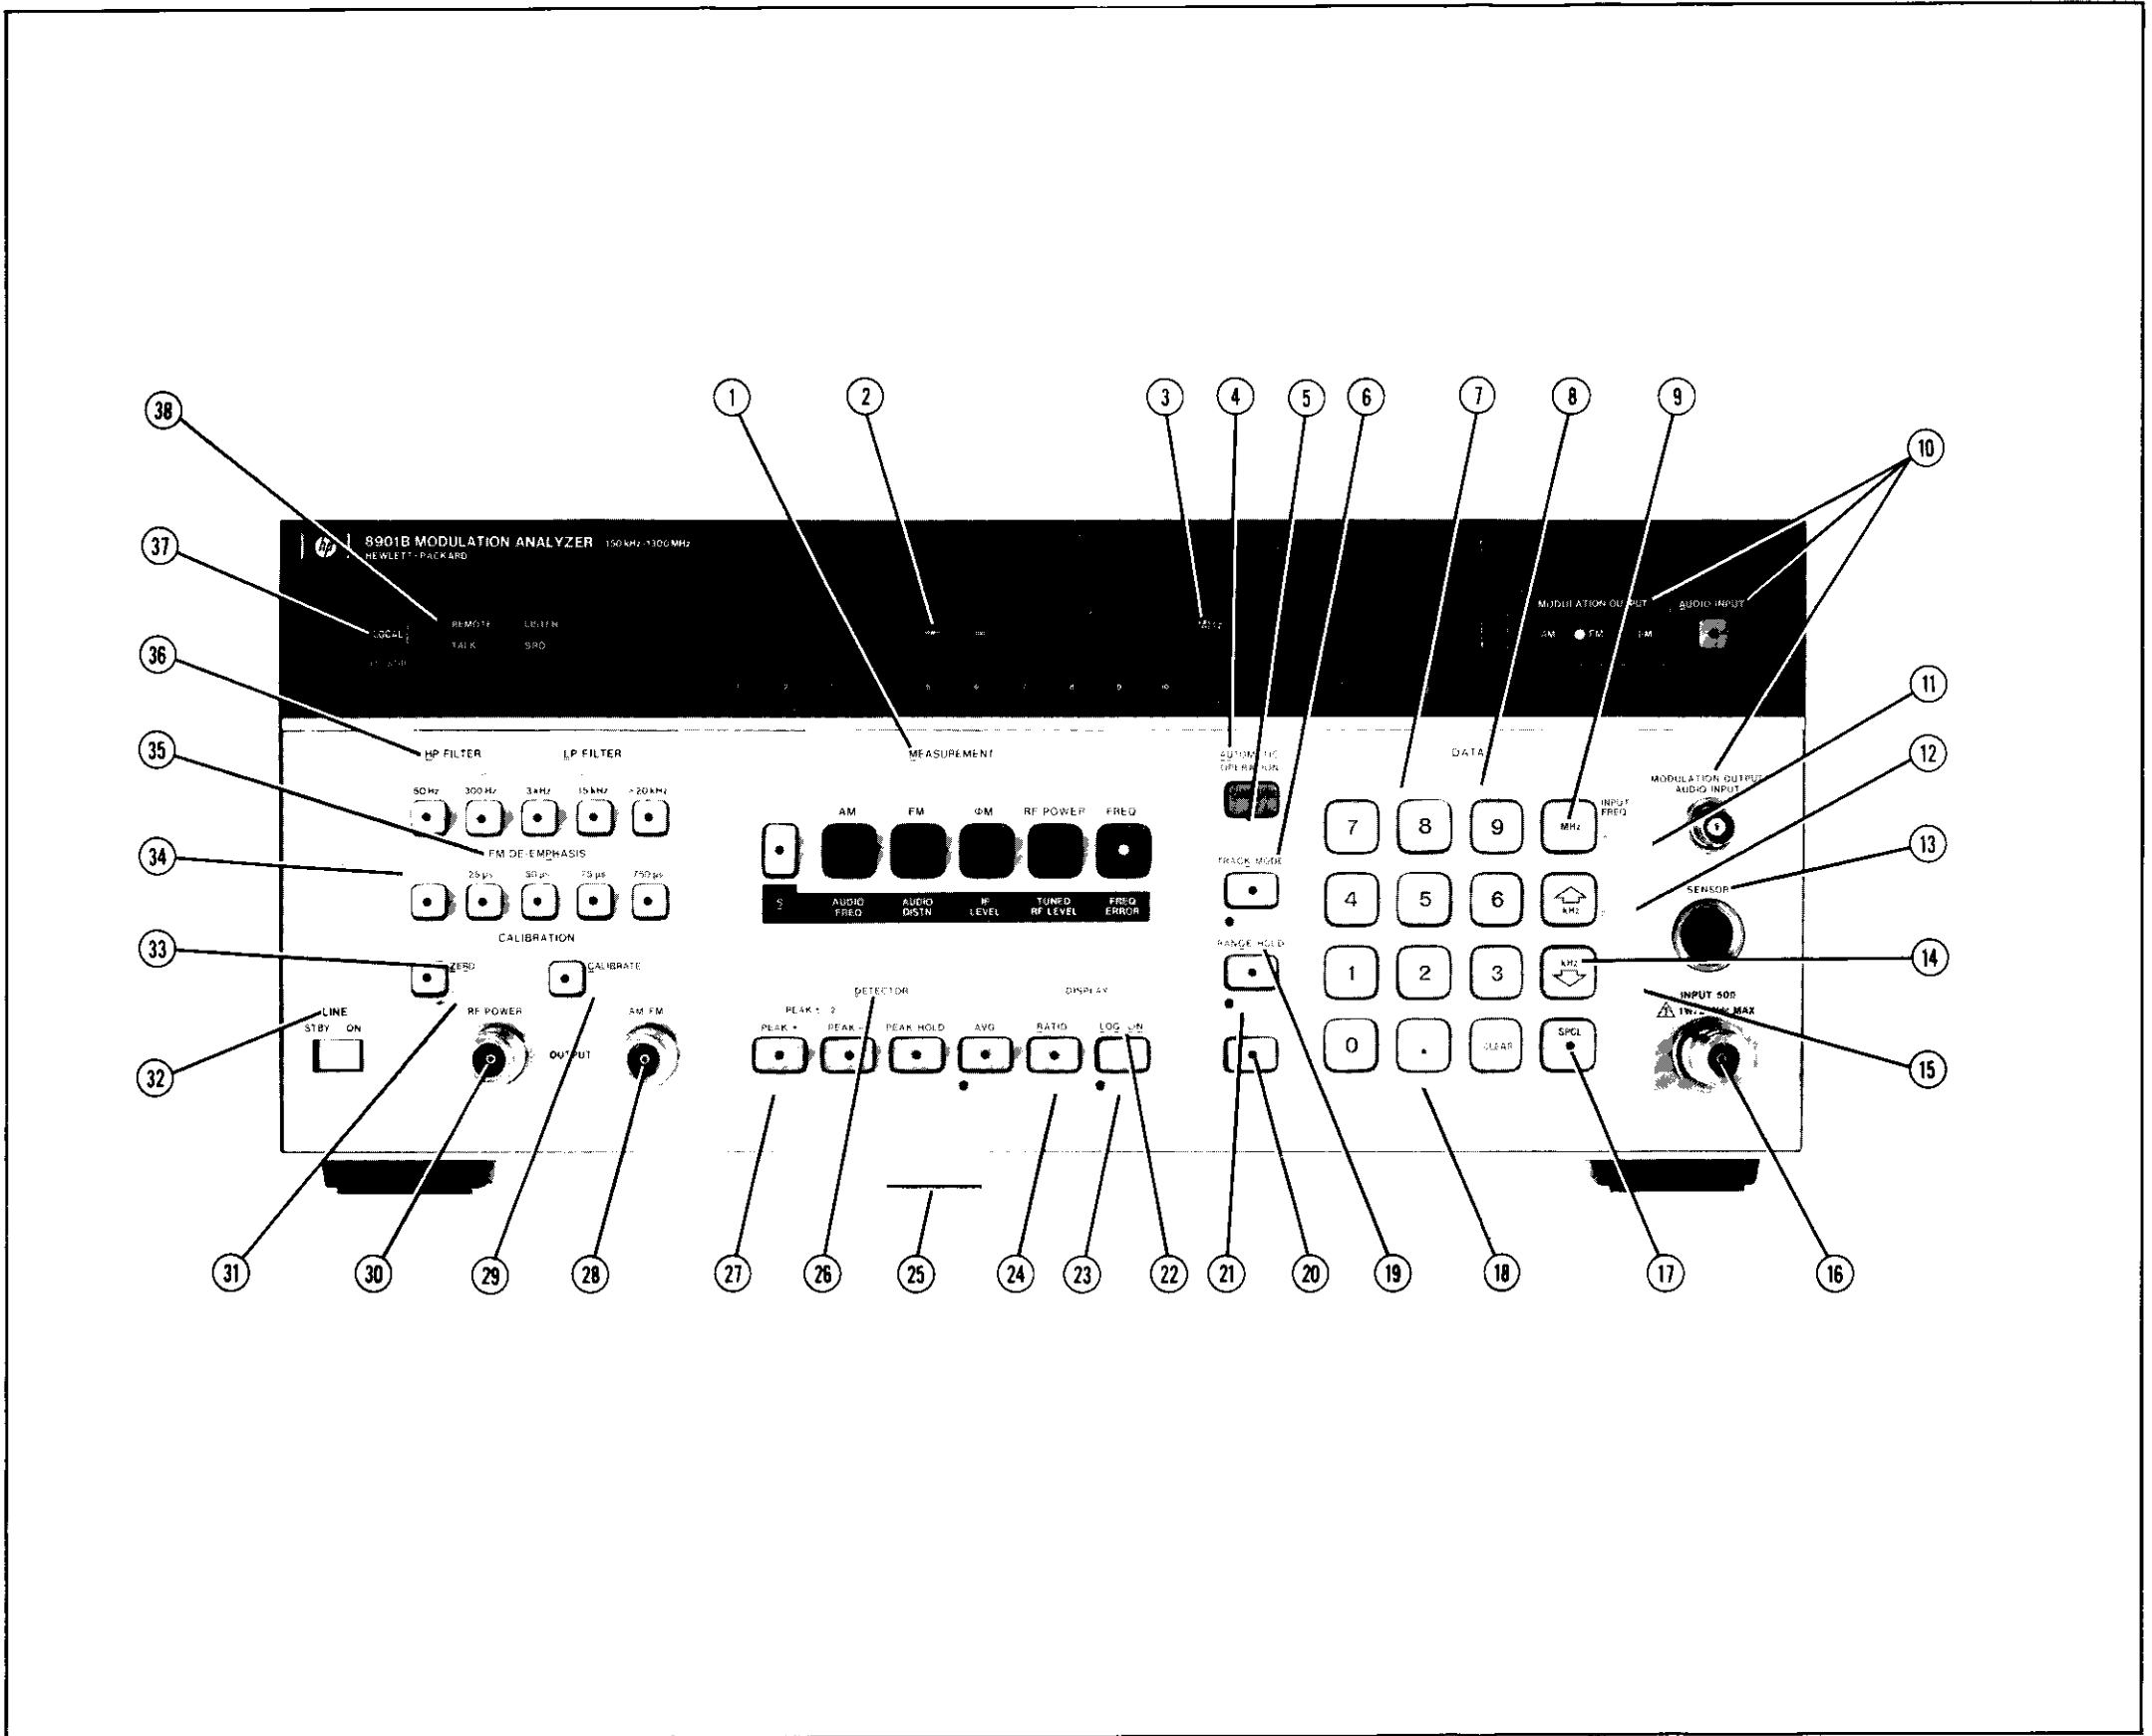

Figure 3-1. Front-Panel Features
Front-panel controls, indicators, and connectors are illustrated and described in Figure 3-1. This figure describes the various functions of the Modulation Analyzer and summarizes briefly how to use them.
- ① **AM OUTPUT** produces an ac signal, whose amplitude is proportional to the AM depth, with a dc component related to the IF level. The output is dc coupled with a 16 kHz bandwidth and a 10 kohm output impedance. (AM Output)
- ② **FM OUTPUT** produces an ac signal, whose amplitude is proportional to the FM deviation, with a dc component related to the IF frequency. The output is dc coupled with a 16 kHz bandwidth and a 10 kohm output impedance. (FM Output)
- ③ **RECORDER OUTPUT** allows user-access to all internal measurement voltages. (Recorder Output)
- ④ **IF OUTPUT** produces a 150 kHz to 2.5 MHz modulated IF signal. The output level ranges from -27 to -3 dBm (50 ohm output impedance). (IF Output)
- ⑤ **TIME BASE 10 MHz OUTPUT and INPUT.** The input connector provides an input for an external 10 MHz time base reference. The external input signal must be greater than 0.5V peak-to-peak (into a 500 ohm input impedance). The output connector provides an output for the internal, high-stability 10 MHz reference. Output signal is TTL compatible (50 ohm nominal output impedance). (Time Base 10 MHz Input and Time Base 10 MHz Output)
- ⑥ **MODULATION OUTPUT/AUDIO INPUT** is a rear-panel output and input supplied on Option 001 instruments instead of the standard, front-panel connection. Refer to MODULATION OUTPUT/AUDIO INPUT in Figure 3-1.
- ⑦ **SENSOR** is a rear-panel input for the power sensor supplied on Option 001 instruments instead of the standard, front-panel connection. See SENSOR in Figure 3-1.
- ⑧ **INPUT** is a rear-panel input for the RF input signal. This input is supplied on Option 001 instruments instead of the standard front-panel connection. See INPUT in Figure 3-1.
- ⑨ **Fuse.** 2 1/2 Amp (250V, Normal Blow) for 100/120 Vac.